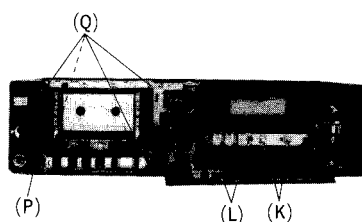

Fig. 5
C Erase head height adjustment Condition: * Playback mode Equipment: * Test tape (tape path viewer) ... QZZCRD	Caution: 1. Remove screws (D) and (E) to replace the erase head. (Do not remove nut (C) since it is designed for erase head height. Adjustment to maintain performance.) 2. After erase head replacement, check by playing test tape (QZZCRD) back to see that the tape travels properly. 3. For any tape travel performance problem, follow the procedure below for adjustment. Adjustment 1. Adjust nut (C) shown in fig. 5 so that the tape may not get curled or malformed by tape guide of the erase head. 2. After adjustment, lock nut (C) with lacquer.  Fig. 5